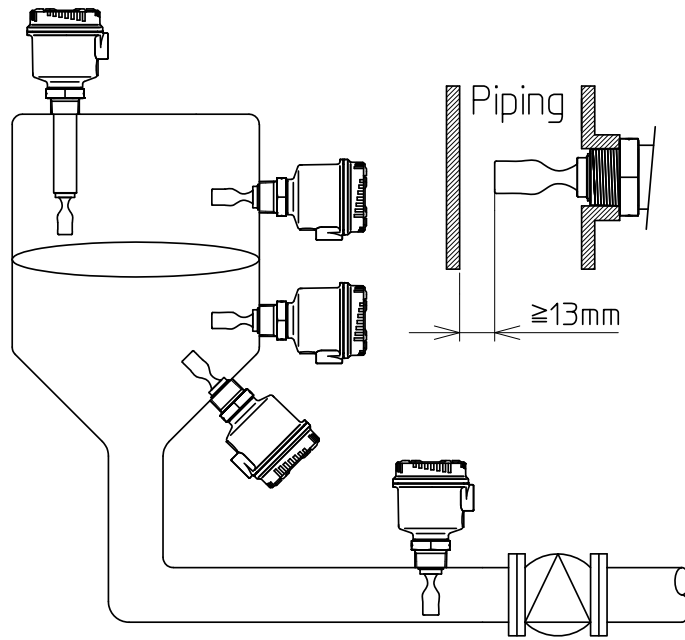

Fig. 5-14
- (3) Avoid bubbles. The sensor may erroneously detect them.
(4) Fig. 5-14 shows mounting examples.